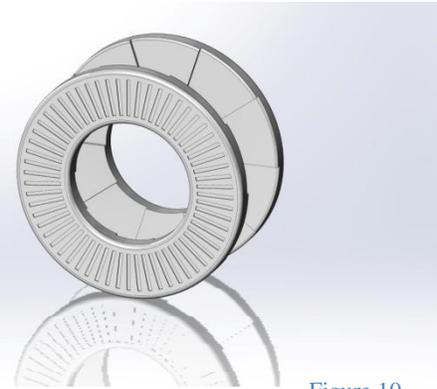

Figure 10
- The four locking wedge washer assemblies are critical components and must be installed precisely in the locations shown in the above exploded diagram. Note that each assembly consists of two rings whose proper orientation must be preserved – opposing wedges on the inside mating surfaces and radial serrations on the outside surfaces (see Figure 10). These assemblies are responsible for securely locking the adjustable hinges of the alignment frame and must not be altered.